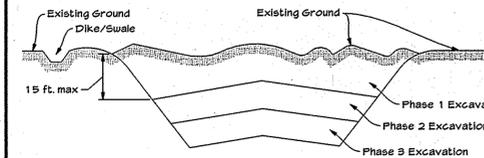

Figure B.1: Incremental Stabilization - Cut
2. Construction sequence example (Refer to Figure B.1).